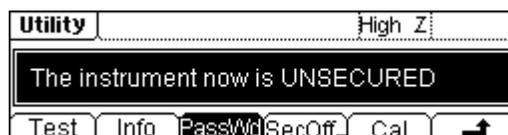

Figure 1-1 Input the Calibration Password
3. Press **Test/Cal** (refer to Figure 1-1) to enter the calibration starting menu.